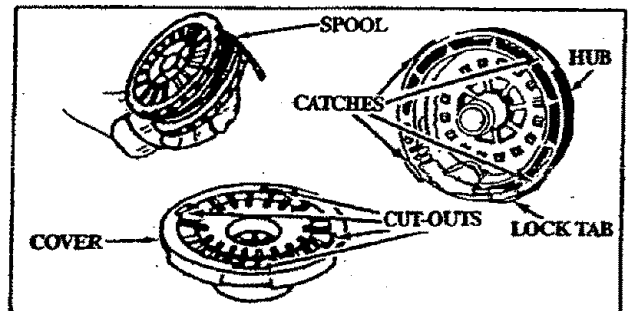

Figure 20
- Remove the Cover and Spool. Figure 20.
- Align the four catches on the Hub with the cut-outs in the Cover. Figure 20.